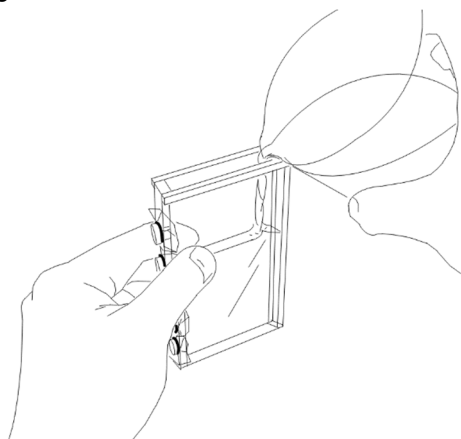

Fig. 3 Pouring water
1. Pour some water (around 60 mL) from a beaker into the smaller tank (see Fig. 3).